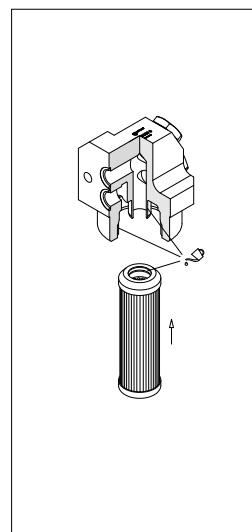

fig. 4
- (Fig. 4) Lubricate with the operating fluid the filter element O-ring, the housing tap and cavity, then fit the filter element on the tap. Pay attention not to damage the O-ring seal